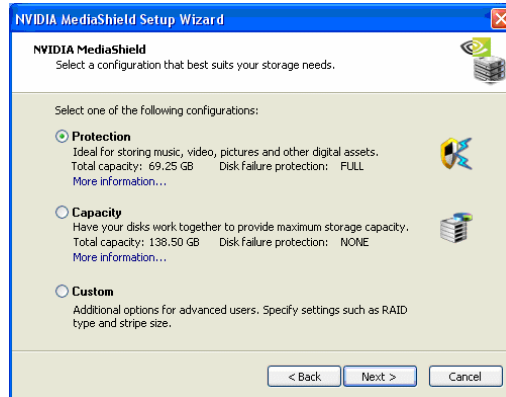

Figure 4. Select Configuration Screen
3. Click **Next** to go to the Select Configuration screen (Figure 4).
You will only see the screen in Figure 4 if your system has one to three free disks. If four or more free disks are available, you'll automatically proceed to **Custom** setup.